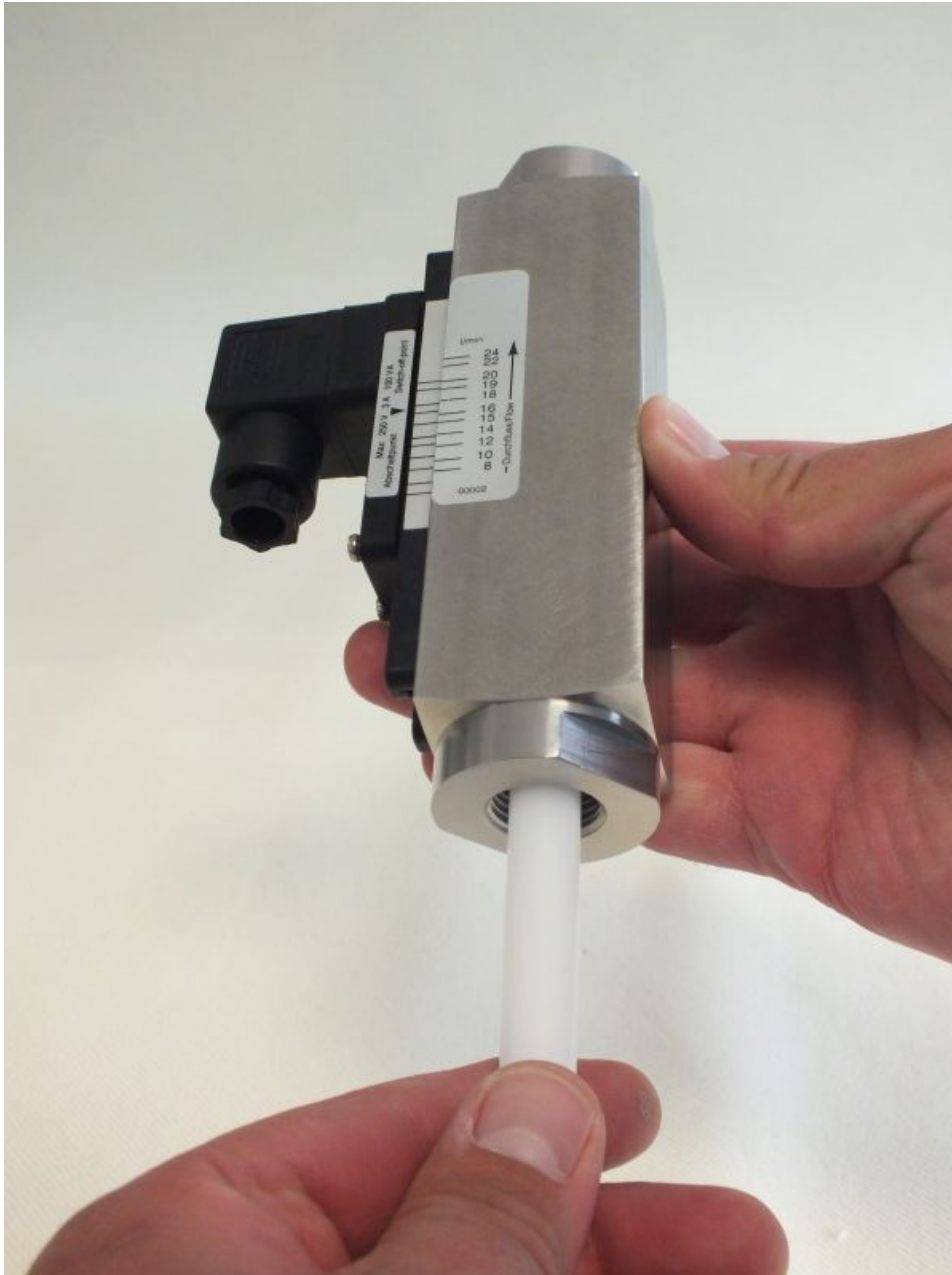

Fig. 72: Check for smooth operation
14. Check the float for ease of movement (Fig. 72) by applying light pressure with the test rod